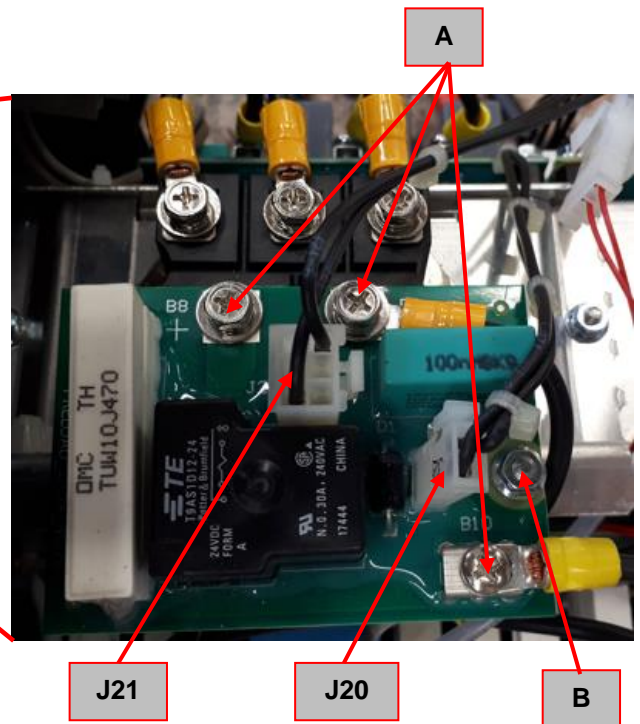

Figure 22
4. Disconnect the connectors J20 and J21. See **Figure 22**
5. Using the screwdriver PH02 remove the 3 screws (**A**). See **Figure 22**.
6. Using Socket wrench 7mm remove the bolt (**B**). See **Figure 22**.